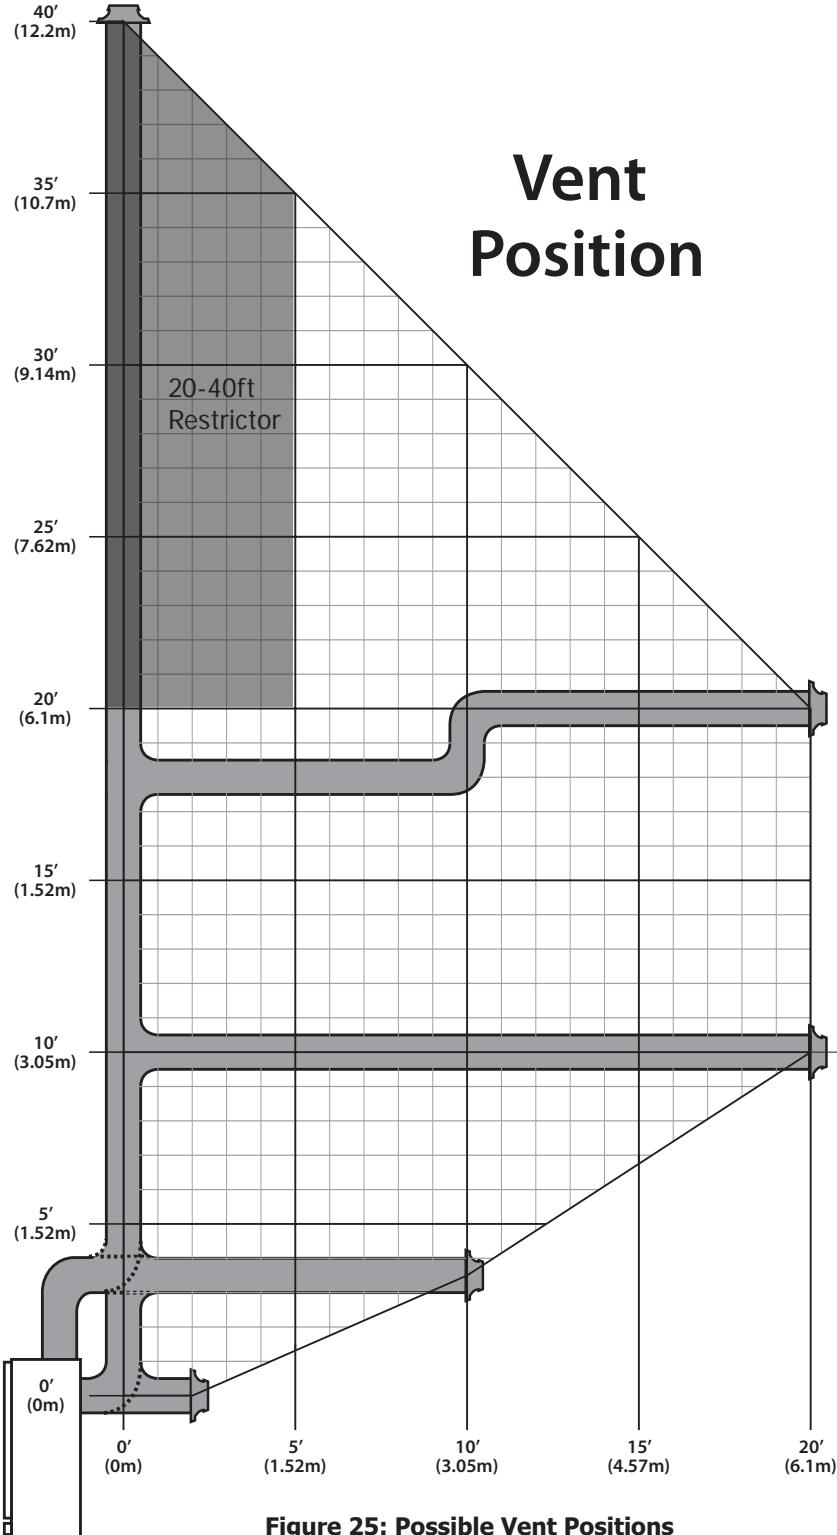

Figure 25: Possible Vent Positions
Figure 25 shows the range of venting options using either vertical or horizontal terminations; any layout that remains within the shaded area is acceptable. Having the fewest number of elbows is ideal as they tend to disrupt air movement. Using 45° elbows is preferable to using 90° elbows. Also, a shorter vent system will perform better than a longer one. The total length of horizontal vent pipe can not exceed 20 feet (6.1m) and the total vent length can not exceed 40ft (12.2m). Any combination of rise and run can be
**Exhaust Restrictors:** Your Q3 fireplace is supplied with an exhaust restrictor. Your venting configuration will determine which restrictor plate you will need to use. Look at the Fig. 25 on page 26 to determine if you require the use of the restrictor.
**Step 1.** Determine which/if any restrictor will be required for your installation Fig. 25 Page 26.